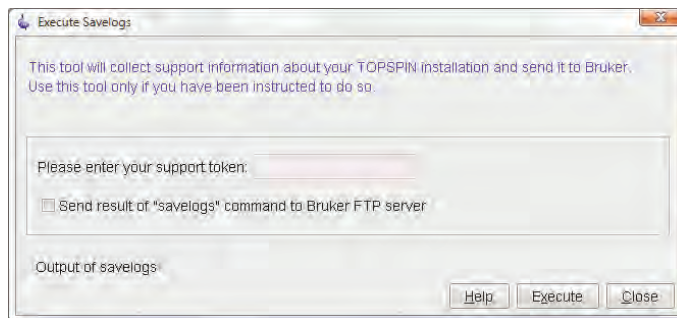

Figure 7.6
- The output files and information about the ftp-upload (if selected) will be shown in the same window below the line "Output of savelogs". (See Figure 7.6)